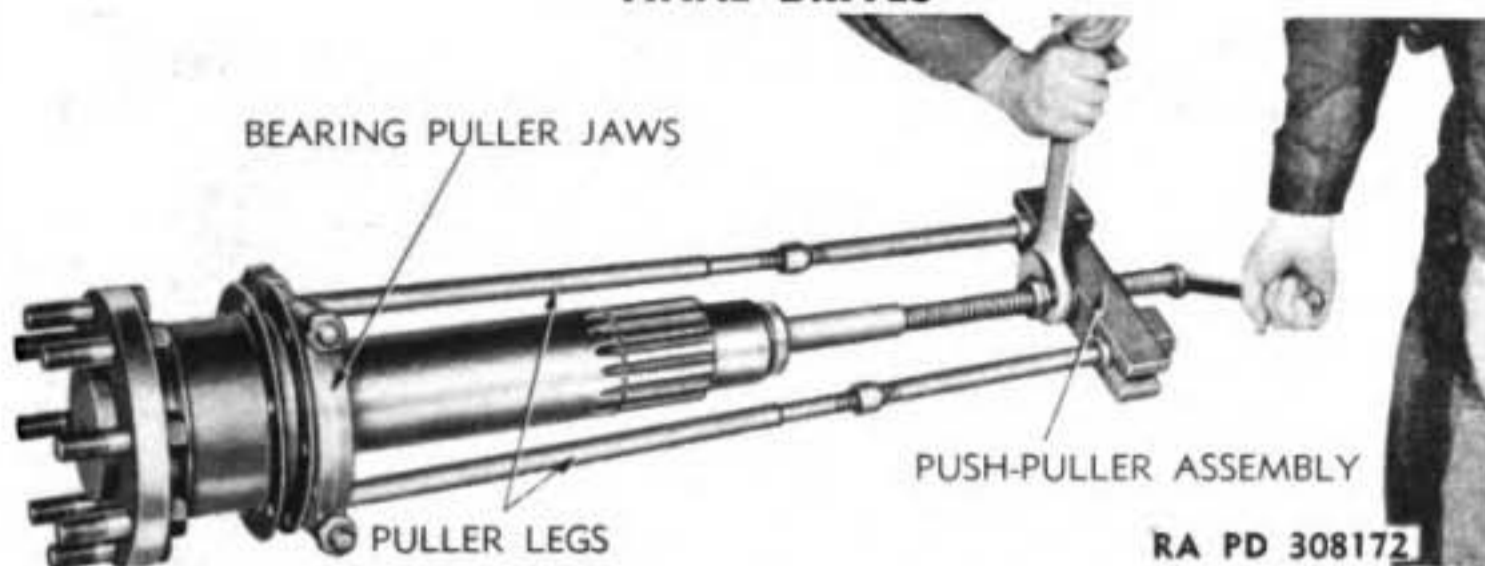

Figure 70 – Removing Inner Sprocket Shaft Bearing, Using Adapter (A-347829) and Puller (41-P-2957-100)
(1) **REMOVE OUTER BEARING** (fig. 70). Install bearing puller jaws back of bearing, wedging jaws against shaft, then connect puller legs and push-puller as shown in illustration, and pull bearing from shaft.
b. Installation. With aid of chain hoist, move assembly into position against tractor. The end of pinion shaft must be inserted through spacer and into differential gear. Install the large cap screw and bolt that attaches bottom and top of gear case to front of hull frame (fig. 10) but do not tighten until the 6 bolts with high nuts and 5 cap screws with lock washers have been installed that attach gear case to spacer (fig. 70). Tighten these bolts and cap screws, then the large bolt and the cap screw. Remove the blocks supporting weight of differential, then install 10 bolts to attach final drive case to bumper support. Install front plate on bumper supports with 22 cap screws and lock washers. Connect and adjust tracks as explained in TM 9-785. Make sure drain plug in gear case is tight and fill gear case with lubricant to level of oil level plug in front of case. Install and tighten level plug.